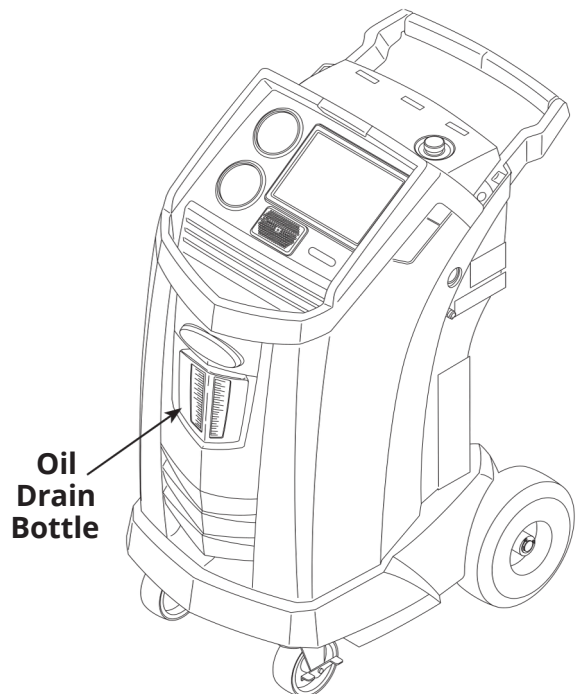

Figure 2
1. Empty the oil drain bottle before starting a recovery. Remove the oil drain bottle from the machine by pulling the bottle straight down—do not use a twisting or rocking motion. Reinstall the oil drain bottle. See Figure 2. *Note: Use caution when removing/installing oil drain bottle. Excessive force may damage internal load cell.*